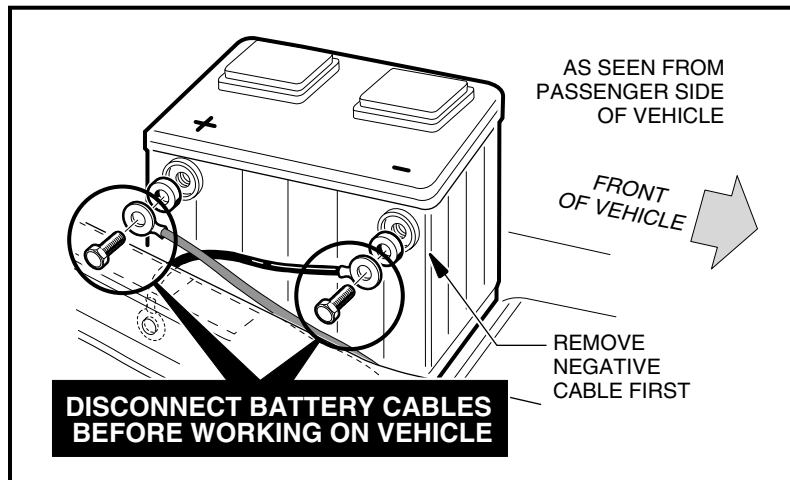

Figure 12-1 Battery Disconnect
- **Disconnect battery cables, negative (-) cable first (Figure 12-1, Page 12-2).**
3. Disconnect the battery cables, negative (–) cable first (**Figure 12-1, Page 12-2**). See **WARNING "To avoid unintentionally starting..." on page 12-1**.